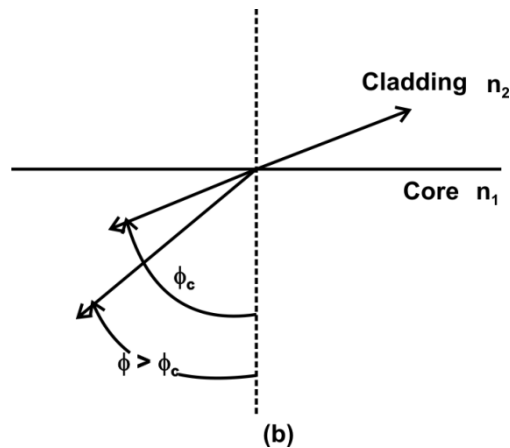

Fig. 14.3: Ray escaping through the core wall by refraction
6. If the angle of incidence is less than the critical angle, then the ray of light will pass through the wall (core and cladding interfacing wall) into the cladding region by refraction and it will be lost. This can be seen from figure 14.3.